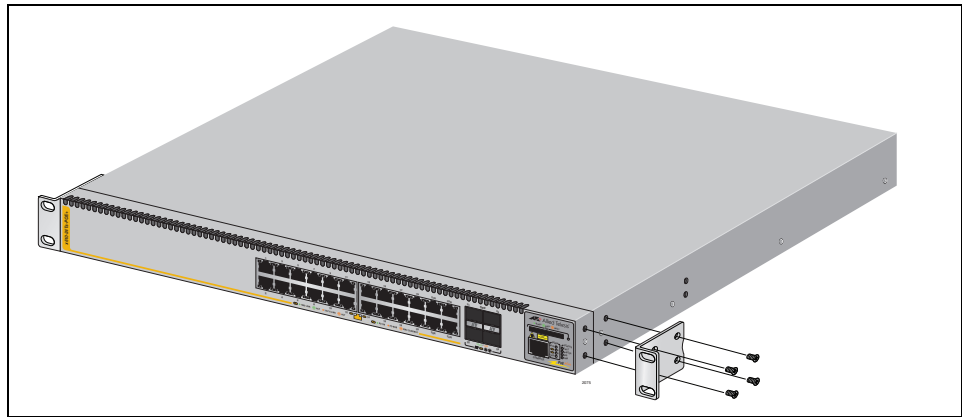

Figure 41. Attaching Rack-Mount Brackets
4. Attach a rack-mount bracket to one side of the switch using six of the screws that come with the switch and then install the second rack-mount bracket on the other side of the switch with the six remaining screws, as shown in Figure 41.